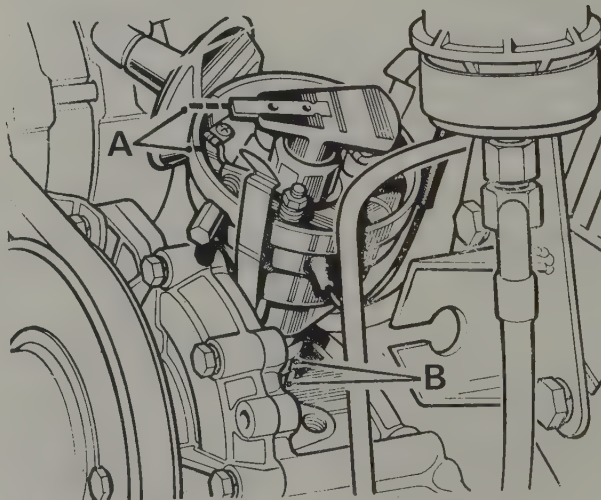
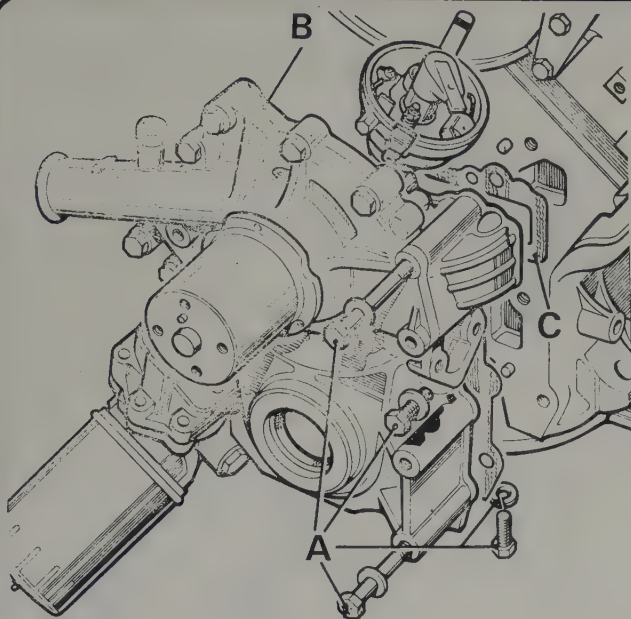

Fig. 1.26 Alignment marks (A and B) made prior to distributor removal
Fig. 1.27. Timing cover (B) securing bolts (A) gasket (C)
- 16 Make a mark on the distributor body to coincide with a centre line drawn along the rotor arm (A), (Fig. 1.26).
- 17 If it is intended to remove the distributor body, then similar realignment marks must be made on the body and the timing cover (B).
- 18 Withdraw the timing cover bolts (including the ones attaching to the sump). (Fig. 1.27).